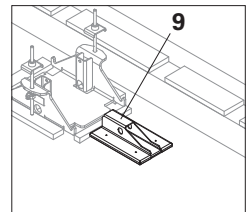

Fig. B1.08a
3. Align 4x Support Plate VD (9) exactly with the stopping boards with the higher edge towards the Table Head Middle Part VD (3). (Fig. B1.08a)